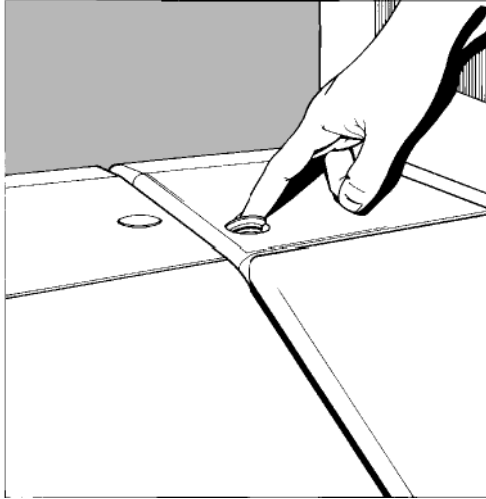

Figure 17 Removing the Inserts
2. Remove the two round inserts from the left-hand side of the top of the main cover (Figure 17). To do this, push down the edge of the insert that is near the back of the Spectrum RX I.